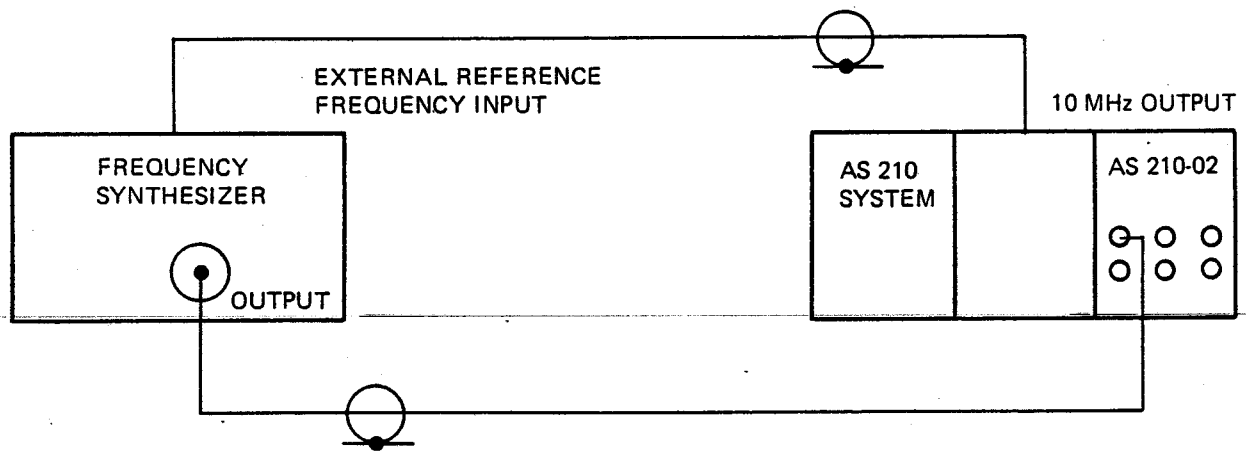

Figure 5.1 AS210-02 Frequency Comparator Input Frequency Performance Test Configuration
- C. Connect the equipment as indicated in Figure 5.1 and apply power to the AS210. The Rubidium Frequency Standard in the AS210 system will require 20 minutes warm-up time to reach the specified frequency accuracy.
- D. Connect the equipment as indicated in Figure 5.1 and apply power to the AS210. The Rubidium Frequency Standard in the AS210 system will require 20 minutes warm-up time to reach the specified frequency accuracy.
- E. With an Oscilloscope, monitor the DC level at the test point TV* on pin (6) six of A2U21 located on Assembly A2..